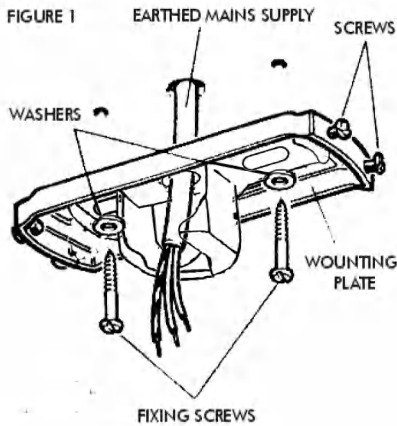

FIGURE 2
1. Hang the ball joint and the fan onto the bracket. Make sure the guided portion of bracket is fitted into slot of ball joint. (Figure 2) With the fan suspended in this manner, you can now make the appropriate electrical connections. See the CONNECTION TO THE LIGHT CIRCUIT section.
2. Insert the remote control receiver between the bracket and the downrod. And the sensor as shown. (Figure 2)